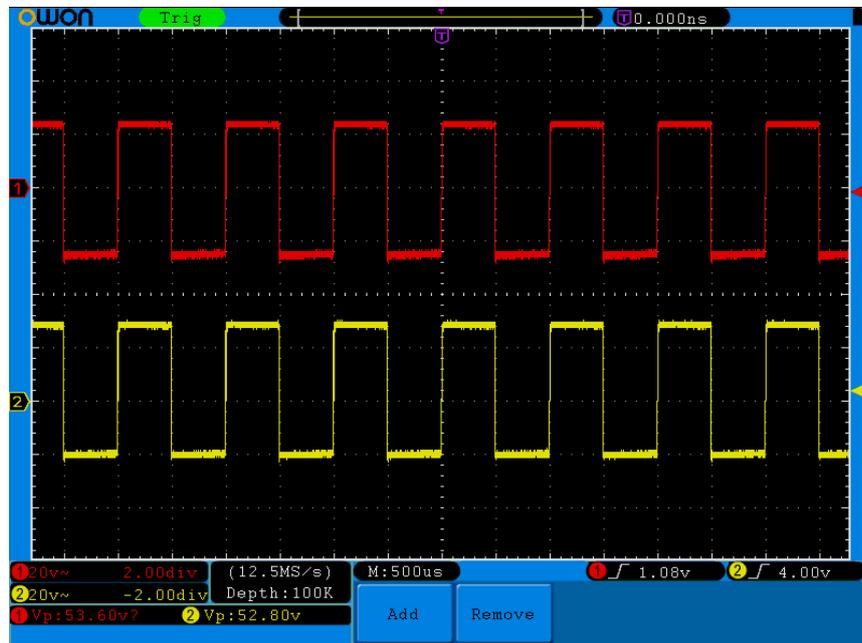

Fig.6-2 Waveform of Gain Measurement
- (1) Press the **Autoset** button and the oscilloscope will automatically adjust the waveforms of the two channels into the proper display state.
- (2) Press the **Measure** button to show the Measure menu.
- (3) Press the **H1** button.
- (4) Press the **F2** button and choose **CH1**.
- (5) Press the **F1** button and turn the **M** knob to choose **PK-PK**.
- (6) Press the **F2** button and choose **CH2**.
- (7) Press the **F1** button again and turn the **M** knob to choose **PK-PK**.
- (8) Read the peak-to-peak voltages of Channel 1 and Channel 2 from the bottom left of the screen (See Fig.6-2).
- (9) Calculate the amplifier gain with the following formulas.